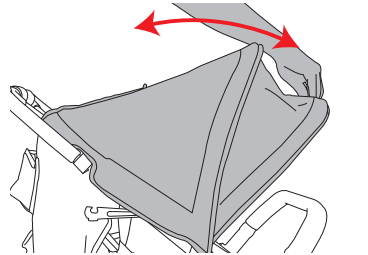

Figure 21
- The canopy and visor can be adjusted into several positions ranging from fully closed to fully extended, or any position in between. See Figure 21.